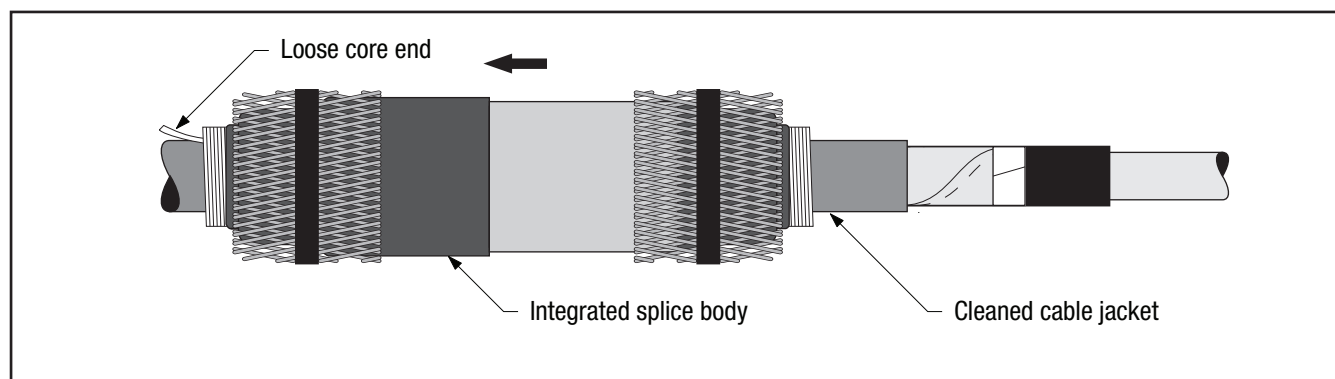

Figure 3
2.5 Slide integrated splice body onto clean cable jacket (*Figure 3*).